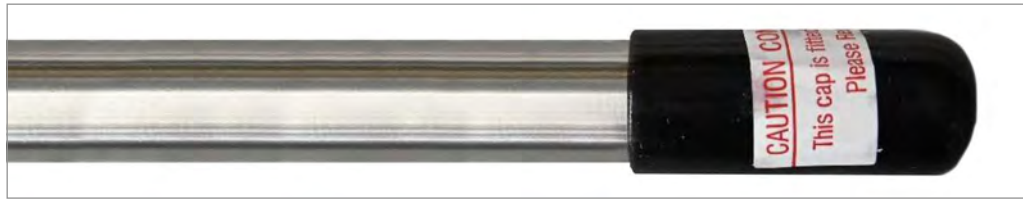

FIGURE 6: Bottom Side Protective Cap with Caution Label
- Carefully remove the protective cap from the bottom side of the transducer (Figure 6), taking care to let the spring loaded shaft extend slowly.